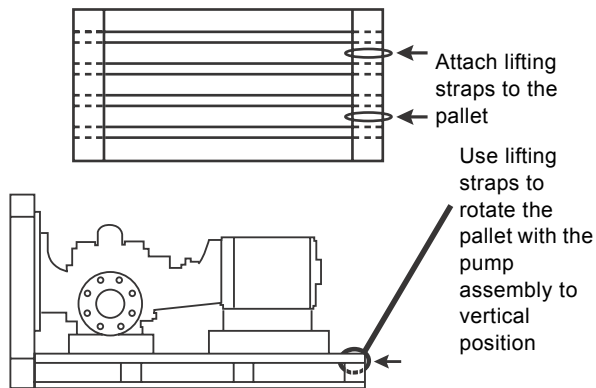

Fig. 3 KPV, KPVS pumps, correct lifting points for pallet
1. Install a lifting strap on each of the pallet's 4 x 4 in. floor boards. Attach the straps securely at the corners of the pallet near the top of the pump motor. See fig. 3.